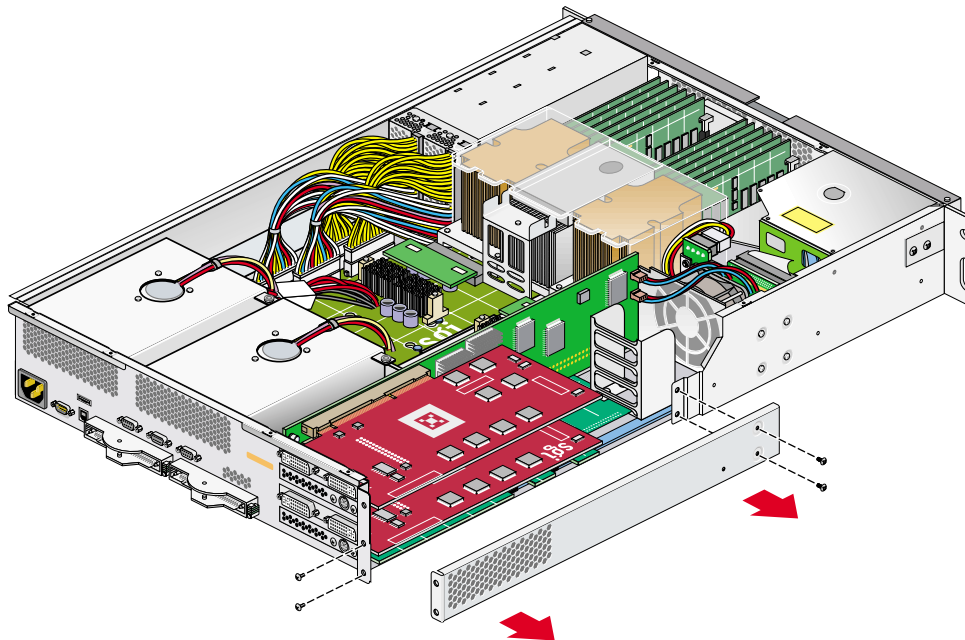

Figure 4-12 Removing the XG2N Graphics Card Bracket
9. Remove the lower PCI/PCI-X support bracket by unscrewing the four Phillips screws, as shown in Figure 4-12.